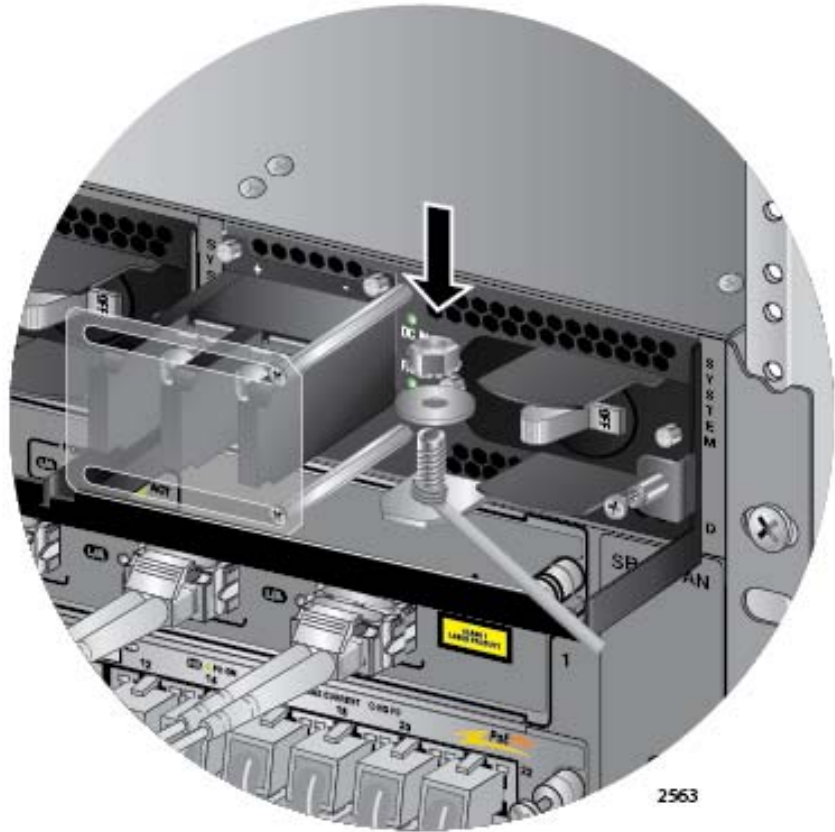

Figure 131. Securing the Bare Grounding Wire to the Grounding Post
4. Secure the wire with the nut and washer removed in step 2, and an 8 mm wrench, as shown in Figure 131.